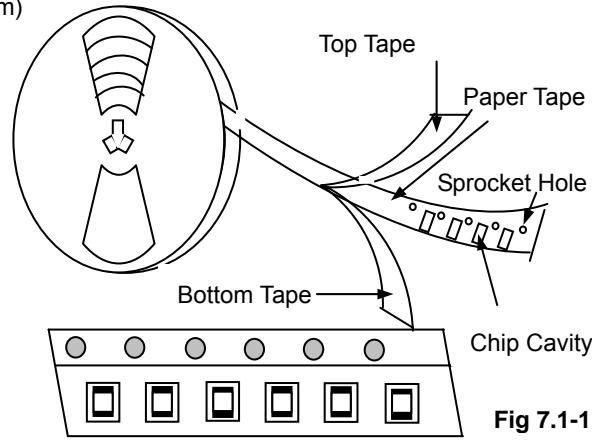

Fig 7.1-1
a. Tape carrier packaging are specified in attached figure **Fig.7.1-1~4**